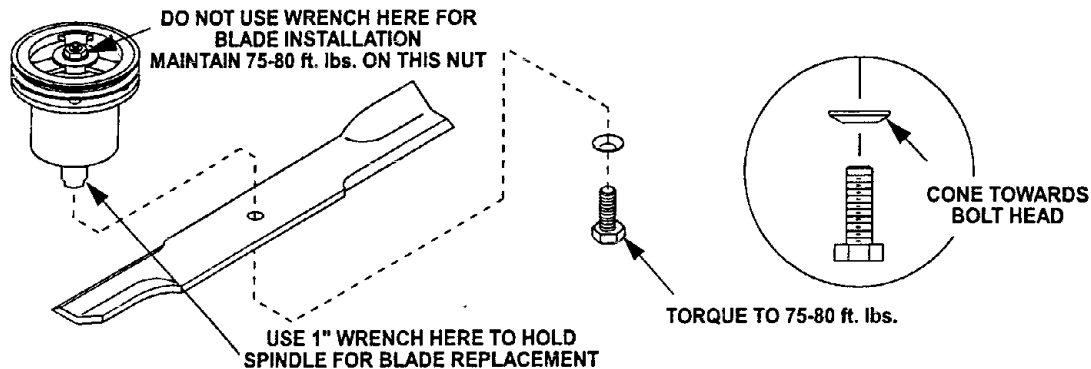

FIG. 8
- g) Re-install the blades (if they were removed) and torque blade bolts to 75-80 ft. lbs. Be sure the spring disk washer cone is installed toward the bolt head (See Figure 8).